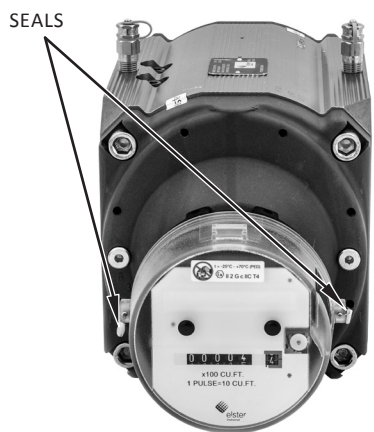

Figure 11. Index cover seals
1. Cut the seal wires and remove from the holes [Figure 11].
2. Remove (unscrew) the two brass screws on the sides of the index cover [Figure 11].